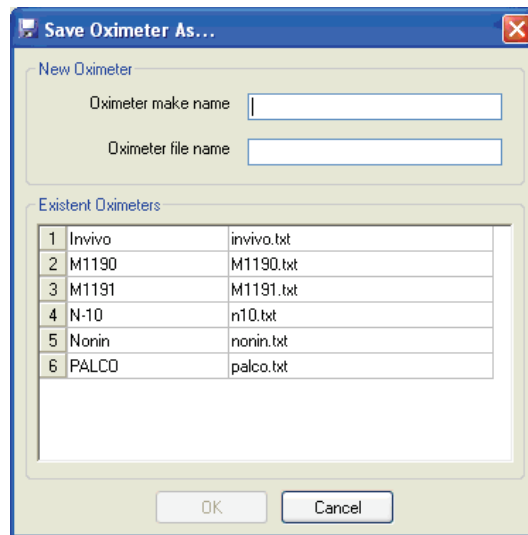

Figure 2-10. Save Oximeter As... window
16. After completing the steps, click **Save** button to save the file. **Save Oximeter As...** window appears as shown in Figure 2-10.